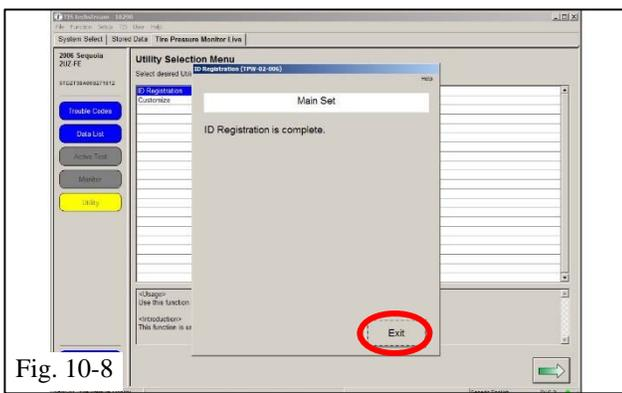

Fig. 10-8
- (k) After all of the TPMS ID numbers have been registered, “ID Registration is complete” text should be displayed. Click “Exit” to finish the registration process (Fig. 10-8).